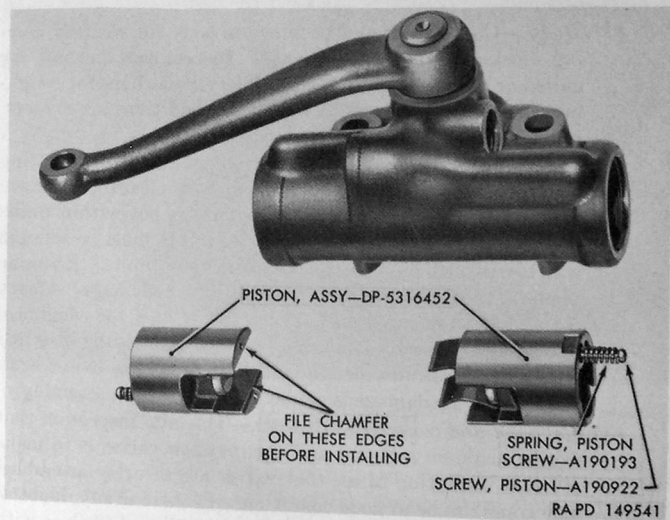

Figure 211. Piston assembly removed.
- (1) Mount shock absorber body on shock absorber rebuilding stand 41-S-4977-5. File a  $\frac{1}{16}$ -inch chamfer on inner edges of compression half of piston at points indicated in figure 211 to permit ends of antirotation spring to enter piston when assembling.
- (2) Insert piston halves in cylinder, with the half having antirotation spring opposite the arm end of the shock absorber, and with cam clearance side of piston halves toward top of shock absorber.
- (3) Install piston screws (D) and piston screw springs (E) in piston. Tighten screws; then back off each screw 1 to  $1\frac{1}{2}$  turns to prevent binding between cam and thrust buttons. Install new expansion plug (C) in screw hole in outer end of each piston half.